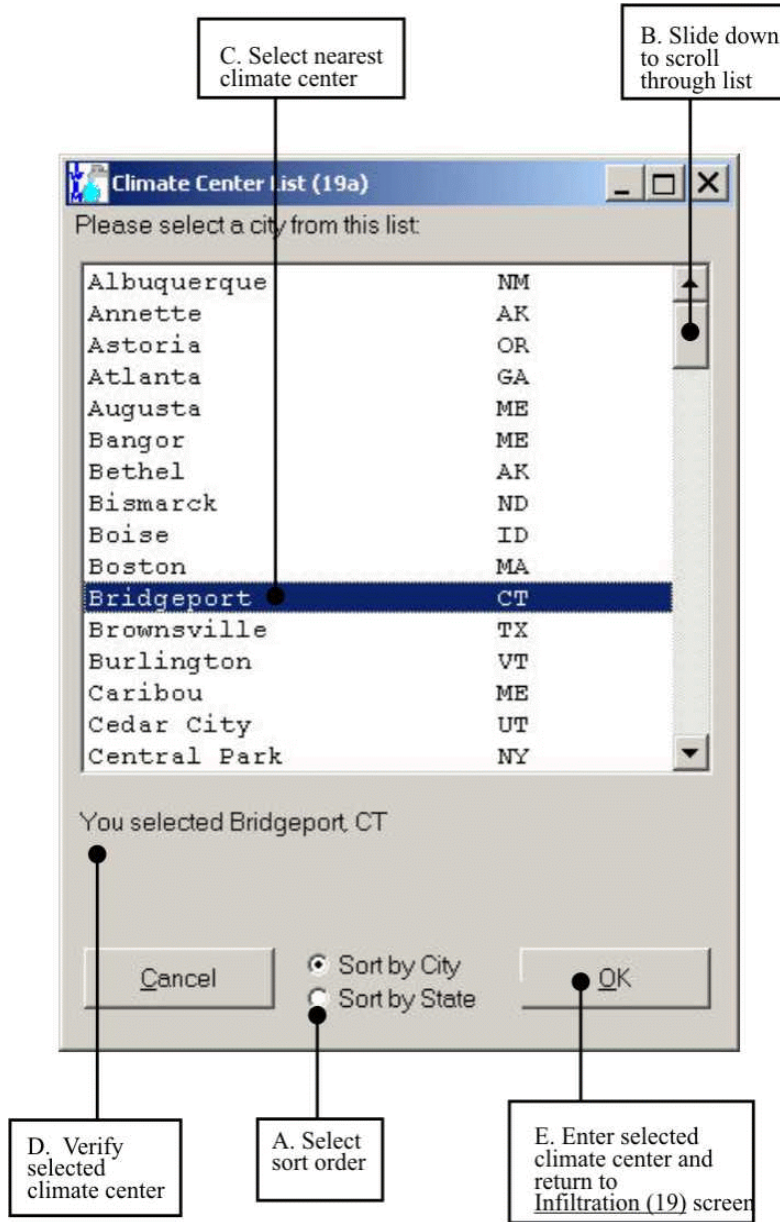

Figure 5.35 Tier 2 Input: Climate Center List (19a).
In many cases, selecting the climate center that is closest to your site will provide the best estimate of infiltration rate. A map of the IWEM climate centers is presented in Figure 6.4 of Section 6.2.3.3 of this document. You should, however, verify that the overall climate conditions at the selected climate station are representative of your site. Section 4.2.2 of the *IWEM Technical Background Document* (U.S. EPA, 2002c) provides a detailed discussion of how the infiltration rates were developed. To choose a climate center, click on the `|VIEWCITIESLIST|` button. The dialog box shown in Figure 5.35 will appear.
To choose a climate center to provide default recharge and infiltration data, click on the |VIEWQTESLIST| button on the Infiltration (19) screen. The dialog box shown below in Figure 5.35 will then be displayed.
The features identified in Figure 5.35 are explained in more detail in the following paragraphs.